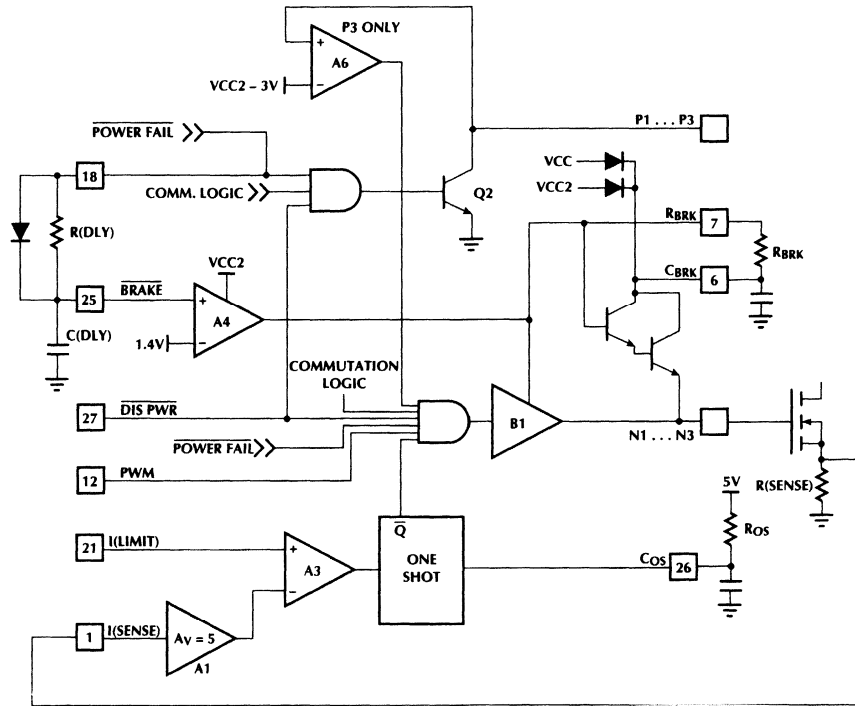

Figure 7. PWM Current Control, Gate Drive and Braking Circuits
As shown in Figure 7 the braking circuit pulls the N-channel MOSFET Gates high when the BRAKE pin falls below a  $2 \times V_{be}$  threshold ( $V_{th}$ ). After a power failure, C(DLY) is discharged slowly through R(DLY) providing a delay for retract to occur before the braking circuit is activated. The P-channel MOSFETs are turned off well before braking occurs. As soon as the  $V_{th}$  threshold is reached, the braking comparator with hysteresis will accelerate the transition and tri-state the N-channel buffer (B1, refer figure 7) before C(BRK) dump charges into the N-channel Gates. This is to ensure that no charge from C(BRK) is lost through the pull-down transistors in B1, (figure 7). The C(BRK) will continue charging the N-channel Gates, to ensure braking, even when VCC2 (motor BEMF rectified through the MOSFET body diode), drops due to the braking process. An external signal could be used to brake the motor. To accomplish this set pin 17 = '1', pin 19 = '0'. This will pull pin 26 below the threshold to activate the braking circuit.
1. When transitioning from mode 0 to mode A (see table 1) P3 goes from on to off at the same time N3 goes from off to on. If P3 turns off slowly and N3 turns on quickly, cross conduction may occur. This condition has been prevented inside the IC on the ML4420 through the addition of comparator A6 on the P3 output (Fig. 7).